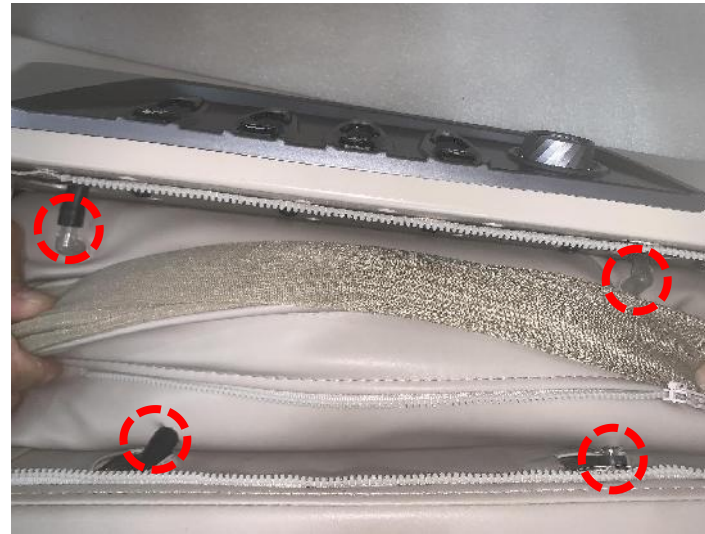

Figure 2
2. Separate four tracheal plug-ins (Figure 2)